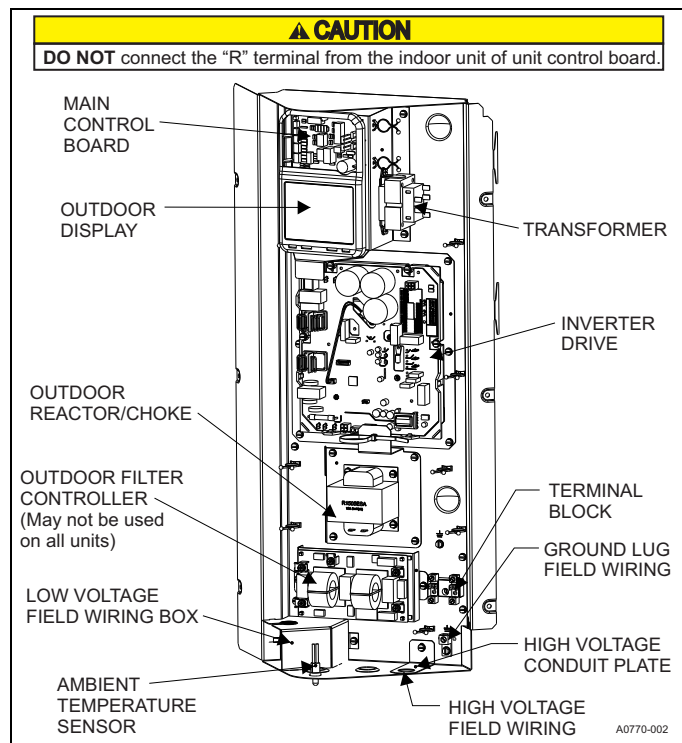

Figure 6: Outdoor unit control box
4. Route wires from disconnect through power wiring exit provided and into the unit control box as shown in Figure 1 and view the openings in Figure 6.
1. Route low voltage wiring into bottom of control box through the hole inside the low voltage box. Connect low voltage wiring inside the low voltage box by clipping and discarding the connector plug and stripping the low voltage wires. See Figure 6. The complete connection diagram and schematic wiring label is located on the inside surface of the unit service access panel.